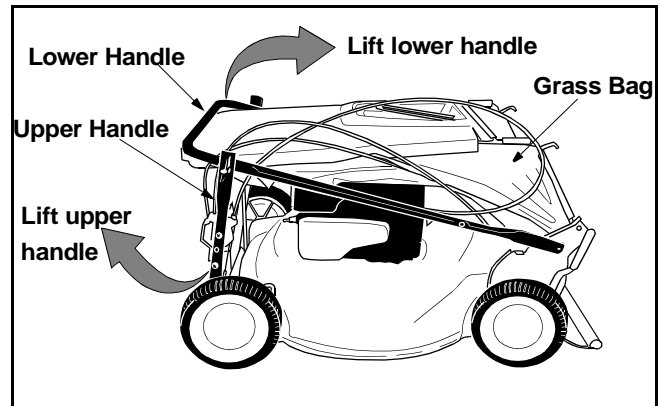

Figure 2
- For shipping purposes, the grass bag was placed on top of the unit. Remove it from the unit and set it out of the way. See Figure 2 .
- Raise the lower handle, as shown in Figure 2 , till it snaps into place.
- Raise the upper handle as shown in Figure 2 .